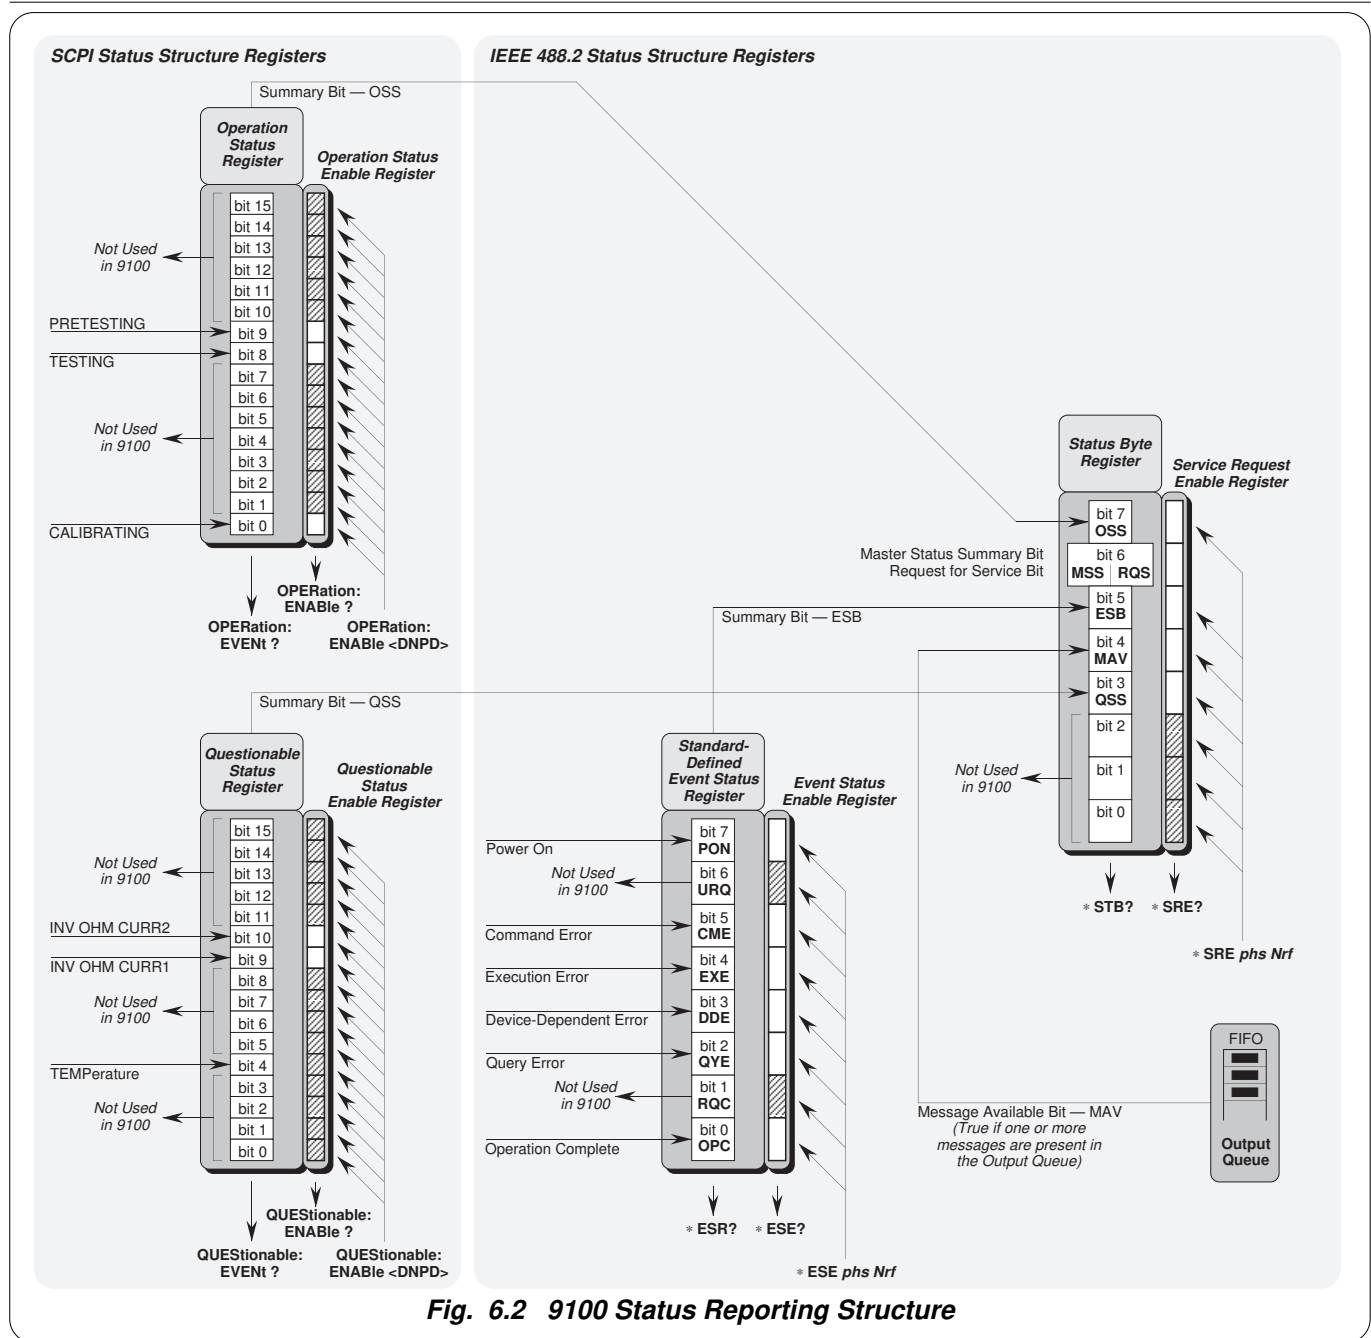

Fig. 6.2 9100 Status Reporting Structure
6.5.2 IEEE-488 and SCPI Standard-Defined Features (Fig. 6.2)
The Status Byte consists of four 'summary' bits which notify events in the 8-bit latched IEEE-488.2-defined 'Event Status Register' (ESB), the two 16-bit latched SCPI-defined registers (OSS & QSS), and the Output Queue (MAV). Whenever one of these summary bits is enabled and set *true*, the Status Byte summary bit (MSS) is also set *true*. The buffered bit 'RQS' follows *true* when MSS goes true, and will set the IEEE-488 SRQ line *true* (Note that in Fig 6.2 no arrow points at bit 6 of the Service Request Enable Register — bit 6 is always enabled).
Referring to Fig. 6.2, take as an example the main Event Status register:
This develops the IEEE 488.1 model into an extended structure with more definite rules. These rules invoke the use of standard 'Common' messages and provide for device-dependent messages. A feature of the structure is the use of 'Event' registers, each with its own enabling register as shown in *Fig. 6.2*.